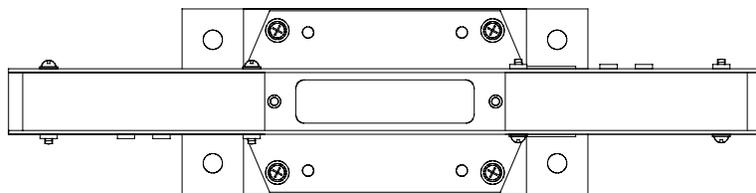

Figure G.5-9: Horn Blinder Properly Aligned on Model 10XR Receiver
- 8) Visually inspect that the horn blinder is aligned properly {Figure G.5-9} and tighten the mounting screws securely (be careful not to over-tighten the screws, as they are stainless steel screws threading into cast aluminum).